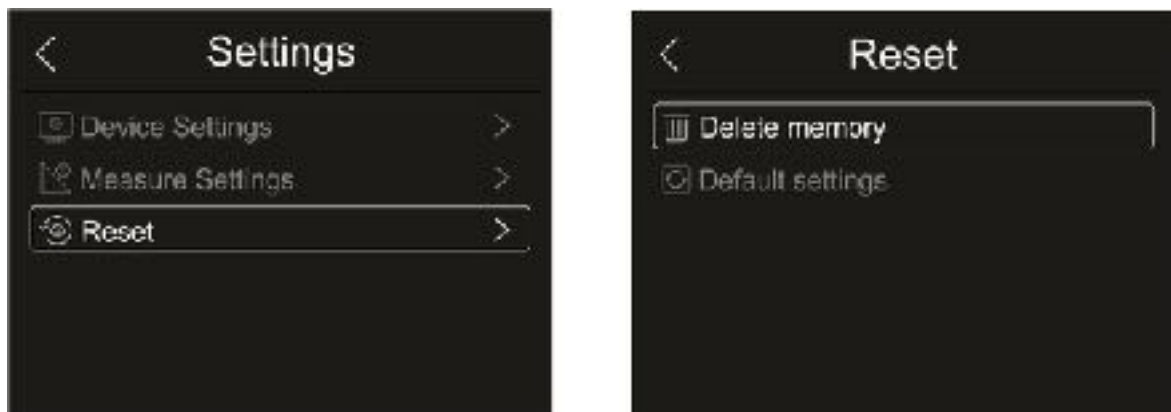

Fig. 28: Instrument reset menu
1. Touch the item "Reset". The screen in Fig. 28 – right side appears on the display. Touch the item "Delete memory". The following confirmation screen is displayed: